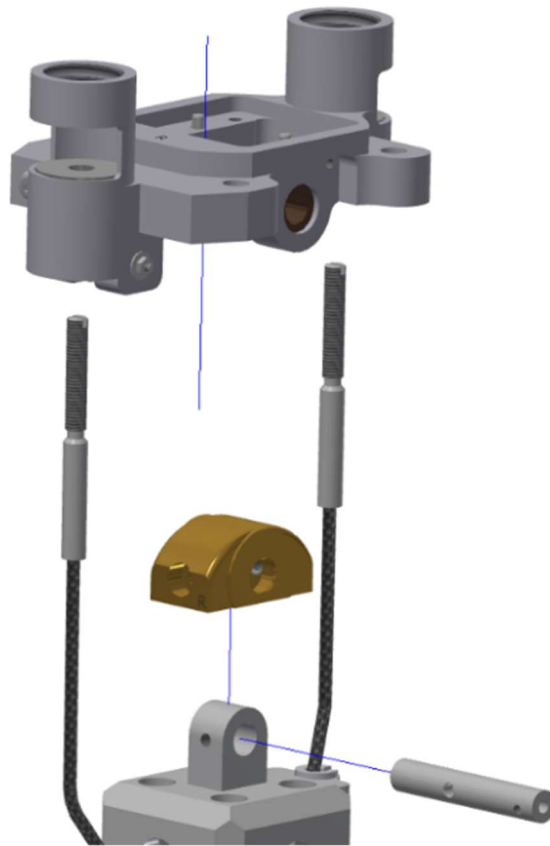

Figure 4-42. Assembly of Neck Mounting Platform and Occipital Condyle Flexion-Extension Cam (474-2327) onto the Upper Neck Load Cell (SA572-S105)
- 4.3.12 Place the Neck Occipital Condyle Cam (474-2327) over the upper neck load cell (SA572-S105) (Figure 4-42). Note that the cam must be properly oriented; the cam ends are engraved to aid in correct positioning. Loosely attach the cam to the upper neck load cell using the Occipital Condyle Screw (472-2016) on the rear and an M4 X 0.7 X 6 SHCS on the front.
- 4.3.13 Install the neck mounting platform on top of the neck occipital condyle cam. Pass the front and rear neck cables up through the Skull Spring Load Cells (SA572-S112) (Figure 4-42).
- 4.3.14 Insert the Neck Occipital Condyle Pin (474-2340) into the cam hole (Figure 4-42). Be certain that the pin is properly oriented within the hole so that the holes in the pin align with the occipital condyle screw in the rear.